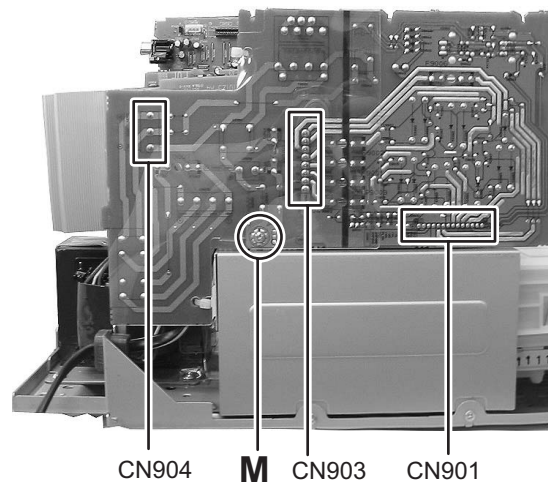

Fig.12
3.1.9 Removing the transformer board (Fig.12)